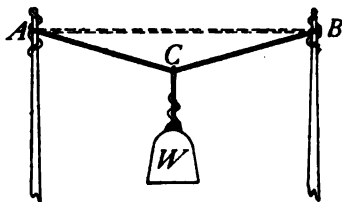

FIG. 69.—Forces acting upon a stretched rope.
4. A weight of 100 lbs. is suspended at the middle of a rope  $ACB$  20 ft. long. (See Fig. 69.) The ends of the rope are fastened at points  $A$  and  $B$  at the